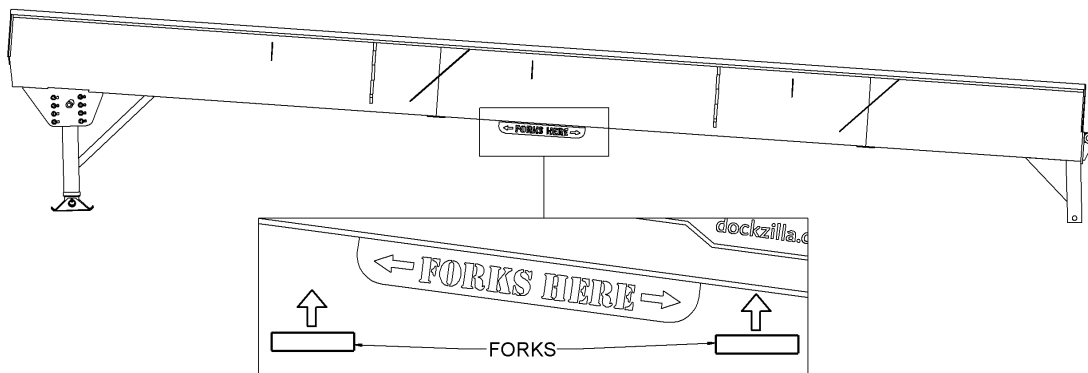

Figure 2b: Offloading with a Telehandler
- b. **TELEHANDLER:** Fully insert forks on either side of “FORKS HERE” tab so that the full width of the ramp is fully supported. Forks must be long enough to reach both side of the ramp. **12’ forks are required for 138” wide ramps, 10’ forks are required for 114” wide ramps, and 9’ forks are required for 96” wide ramps.** Starting with the upper ramp, slowly lift ramp, and verify that the load is stable. Carefully move the upper ramp to the desired location and place it on the ground. Repeat for the lower ramp. **NOTE: Figure 2b shows the lifting of the upper ramp. The lower ramp is lifted in a similar manner.**